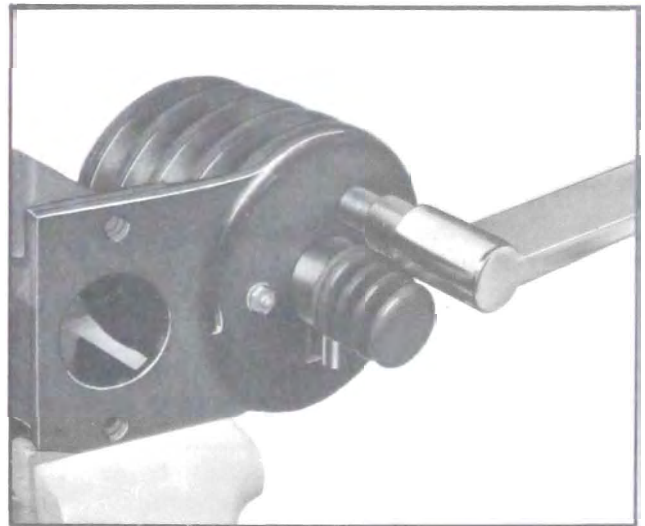

Figure 9-36—Positioning Mounting Bracket
11. Position mounting bracket on mounting hub with threaded studs projecting through holes in mounting bracket and start three lock washers and nuts. Align slot in mounting bracket with tab on bellows and tighten three nuts to 85-115 inch-pounds torque. Figure 9-36.